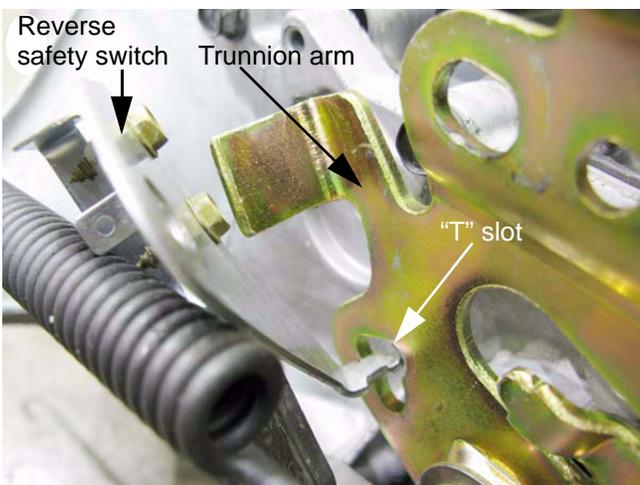

Figure 5.83
- 19b. The bottom of the reverse safety switch fits into a "T" slot in the trunnion arm. See Figure 5.83.